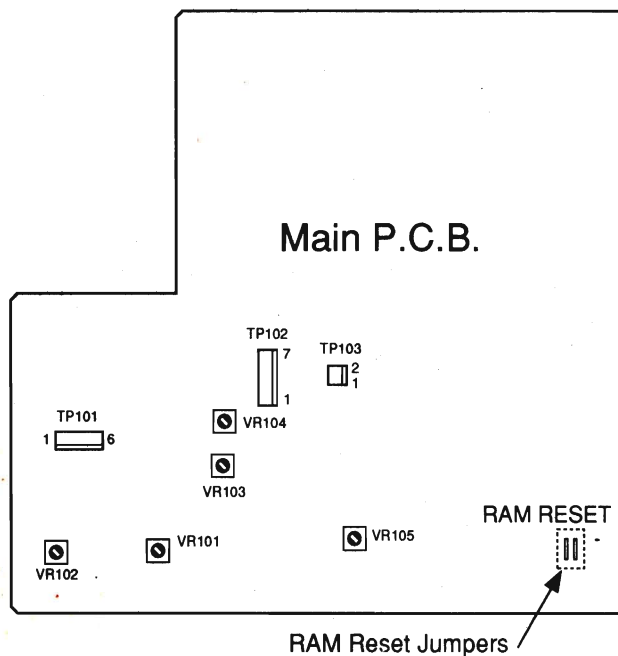

Fig. 1.2 Stoker Operation Check at Power ON
- (1) Turn OFF the power.
- (2) Remove the Top Cover Ass'y.
- (3) Short the RAM Reset jumper wires. See Fig. 1.2.
- (4) Turn ON the power and then remove shorting.
- (5) The stoker raises to the uppermost position, and then starts a series of CD unload operation as follows: